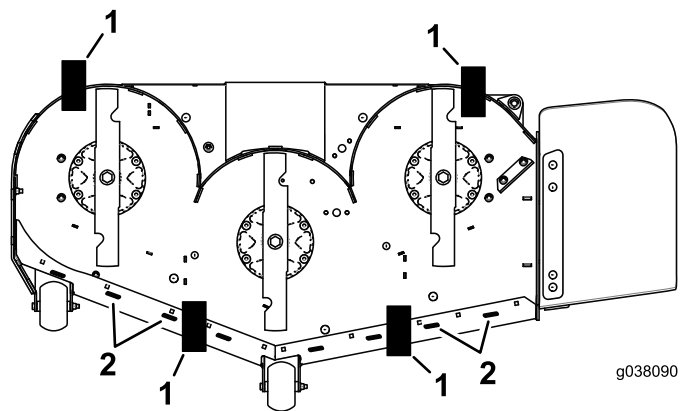

Figure 104
11. Place 2 blocks (see Block Height and Rake Table) under the rear edge of the cutting deck skirt; 1 on each side of the cutting deck (Figure 104).